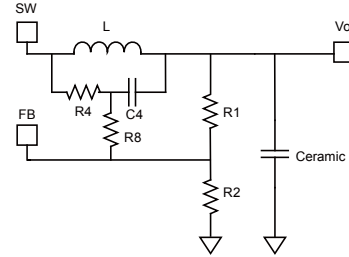

Figure 11: Simplified Circuit of Ceramic Capacitor
The output voltage is influenced by V_{RAMP} beside the R divider (see Figure 11). V_{RAMP} can be calculated with Equation (5) on page 14. R2 should be chosen carefully, as a small value for R2 will lead to considerable quiescent current loss while too large a value for R2 will make the FB noise sensitive. Use a comparatively larger R2 when V_O is low (e.g. 1.05V), and a smaller R2 when V_O is high. The value of R1 can then be calculated with Equation (14):